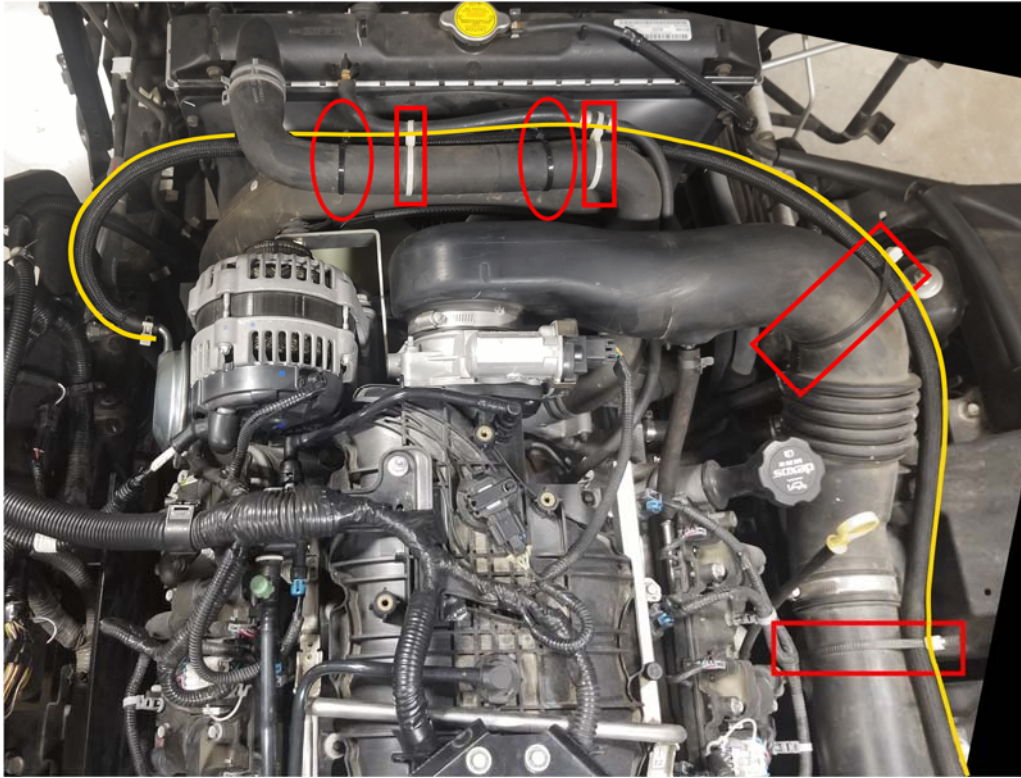

Figure 2
10. Reroute the outlet vacuum hose along the inlet air duct, in front of the upper radiator hose, attaching the line to the hose with two (2) zip ties as shown in Figure 2. Complete the routing by connecting the end of the vacuum hose to the vacuum pump outlet fitting.